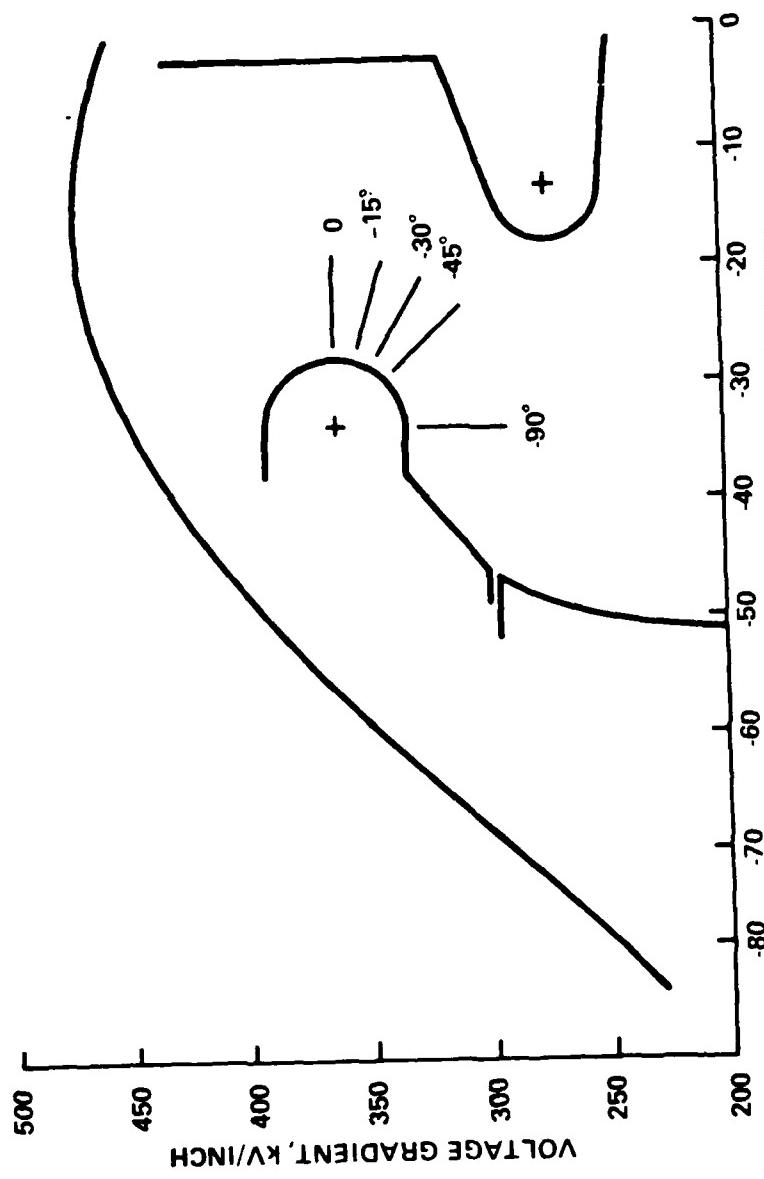

FIGURE 6. VOLTAGE GRADIENT vs FOCUS ELECTRON ANGLE
3. In order to ensure the integrity of the design at high-voltage operation, a computer plot of the voltage gradient in vacuum was generated as shown in Figure 6.